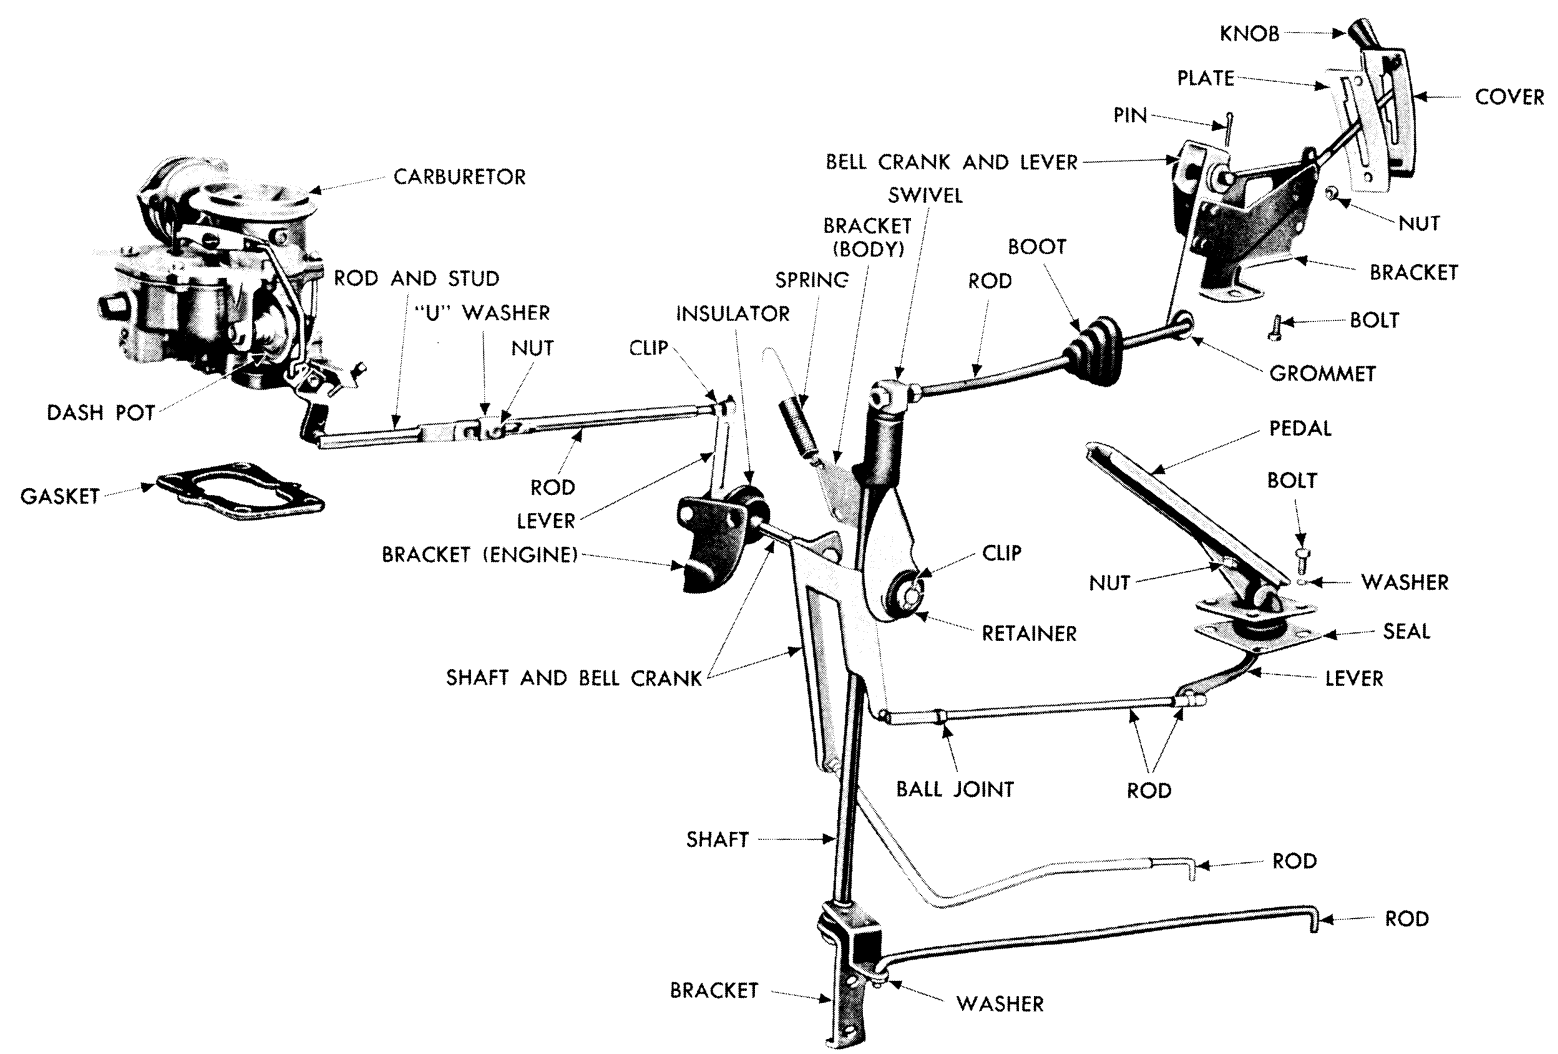

Fig. 35—Throttle Control Linkage
26. GEARSHIFT LINKAGE ADJUSTMENT (REFER TO FIG. 35)